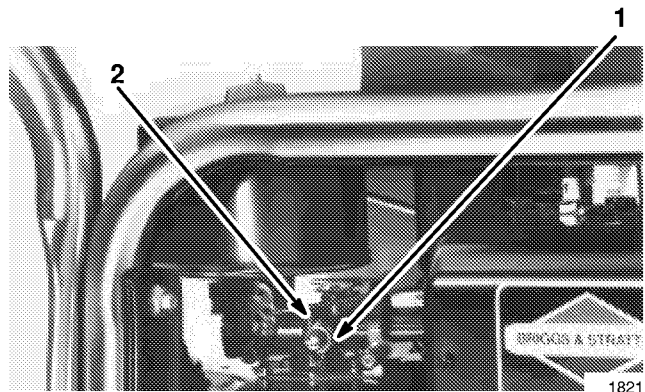

Figure 24
2. Close needle valve by gently rotating it clockwise (Fig. 24).
Note: Rotate idle adjusting screw clockwise to increase idle rpm. By contrast, rotate idle adjusting screw counterclockwise to decrease idle rpm (Fig. 24).